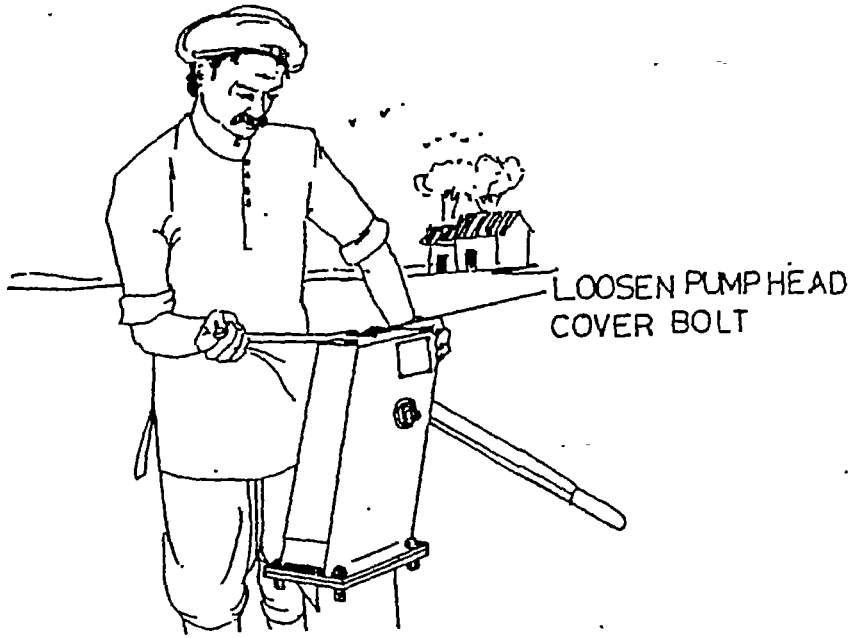

FIG:4.1 LOOSE HAND PUMP COVER BOLT
- i) Loose pump head cover bolt (Fig. 4.1)